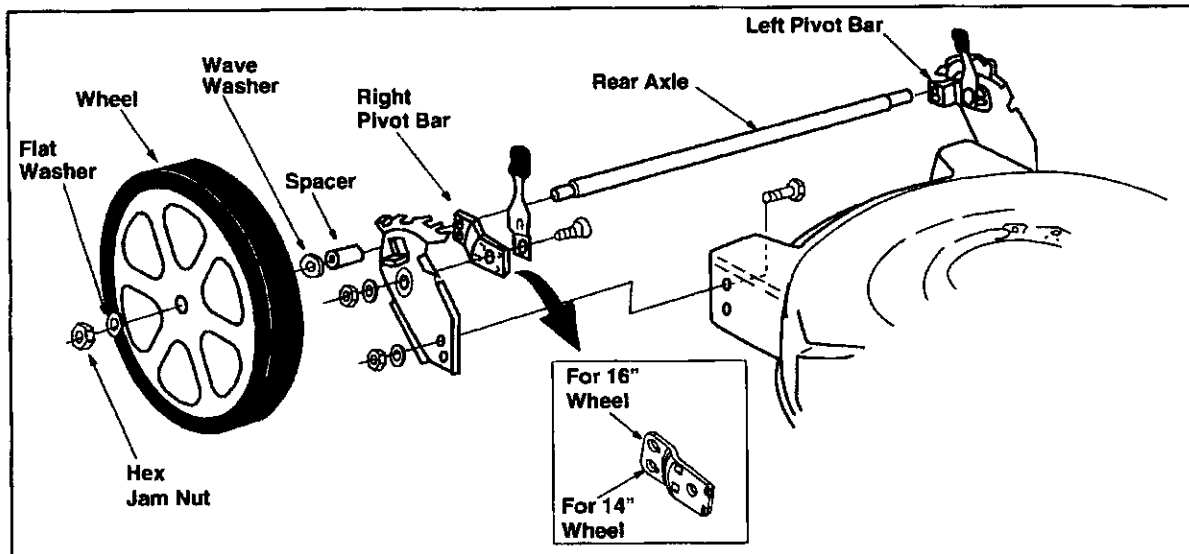

Figure 9
IMPORTANT: There are two holes on the pivot bar. You will have to attach the axle shaft through the top hole of the right pivot bar when installing 16" diameter wheels, and through the bottom hole when installing 14" diameter wheels. Use the same corresponding holes on the left pivot bar. See Figure 9.
- Slide the left side of the rear axle shaft through the right pivot bar (pivot bar with keyed hole). See Figure 9.